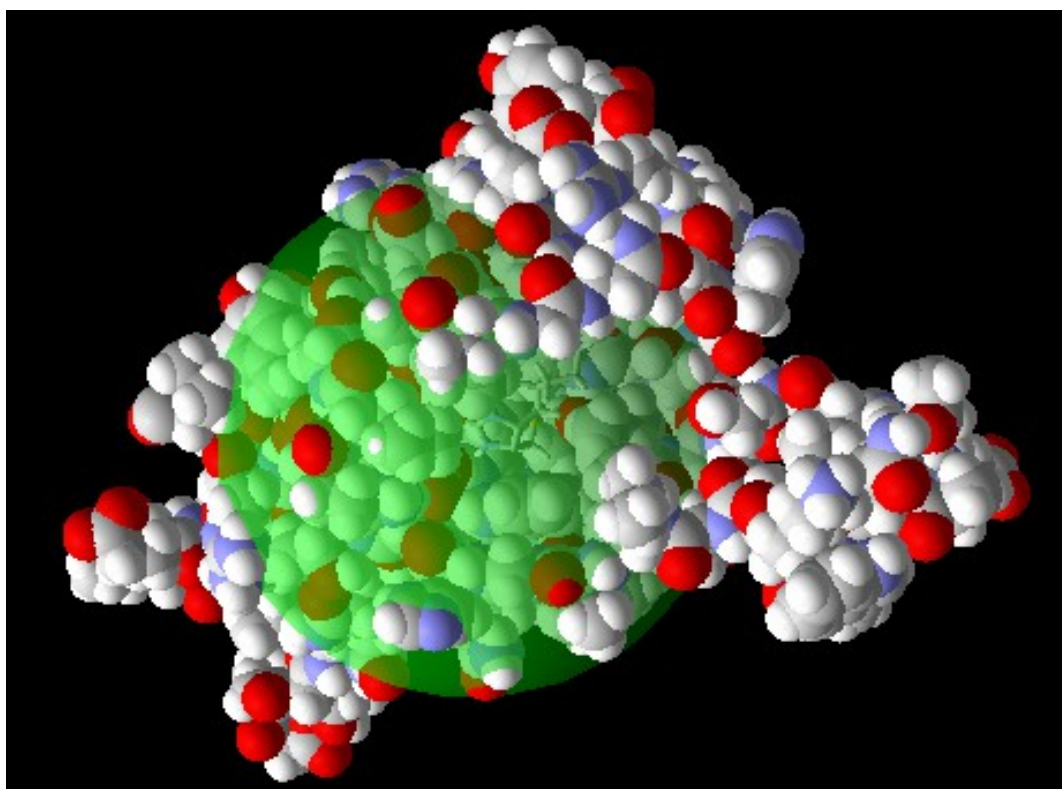

Figure 65: Example of search space region (green sphere).
*Notice:* A sphere in the **Visualizer Window** indicates the position and size of the current search space region (see Figure 65).